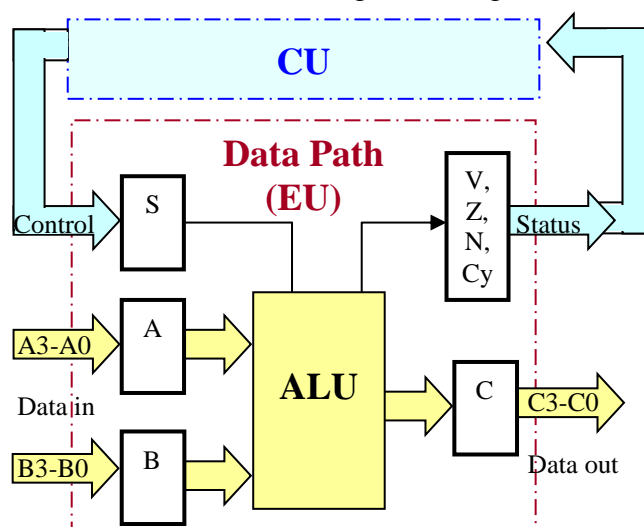

Figure 1: ALU block diagram
The Central Processing Unit (CPU) consists of a Control Unit (CU) and a Datapath (execution unit – EU) as shown in the block diagram of Figure 1.
- Control (operations codes) / status: S3-S0 / (V, Z, N, Cy) – marked in light blue in Fig. 1